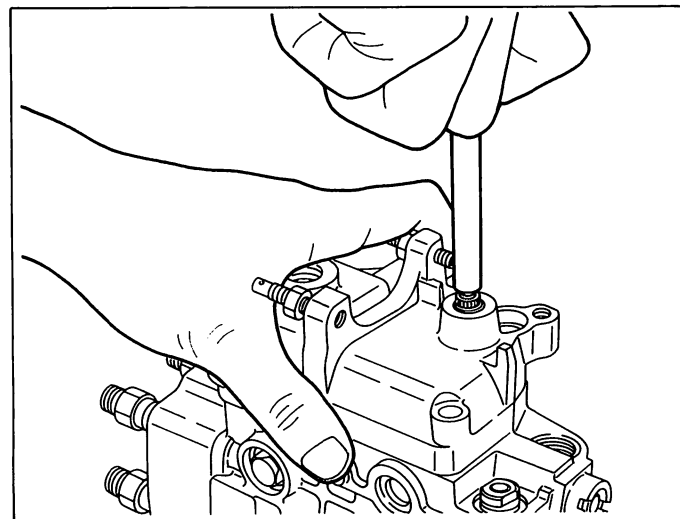

Fig. 96 Fitting the control shaft
3. Fit the seal ring (92) to the governor cover (67/1)
4. Insert the inserter (157829-0720) through the control shaft mounting hole on the governor cover (67/1) and screw it onto the threaded part of the control shaft (67/2). Next, fit the control shaft into the governor cover while pulling the inserter and pushing the governor cover into place. (Fig. 96)
5. Fix the governor cover (67/1) with the screws (123).